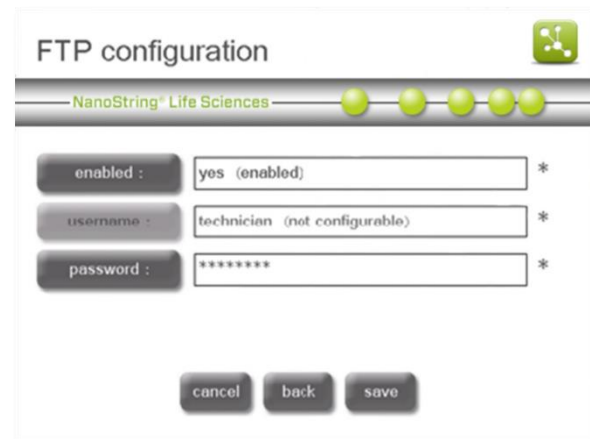

Figure 147: The 'FTP configuration' screen.
1. To configure FTP access to the Digital Analyzer, select FTP on the 'System Setup' screen. The 'FTP configuration' screen will appear (**Figure 147**). The default FTP username is set to "technician." The username cannot be changed.